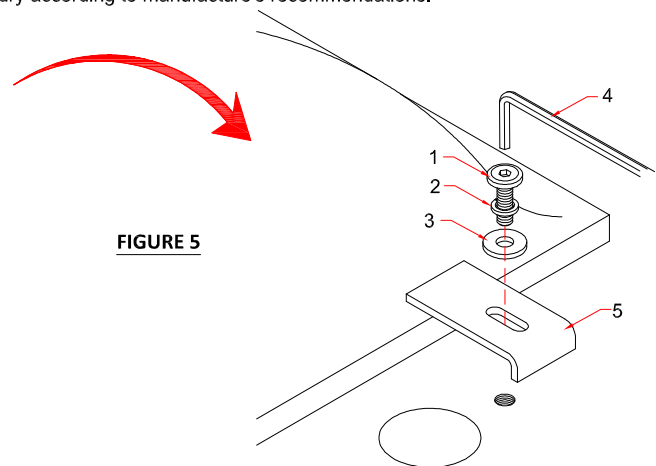

FIGURE 5
5c. Align Allen Bolt (1), Lock Washer (2) and Flat Washer (3) with pre-installed stone top threaded insert and secure on all 4 points with mounting bracket (5) by using Wrench (4). See FIGURE 5